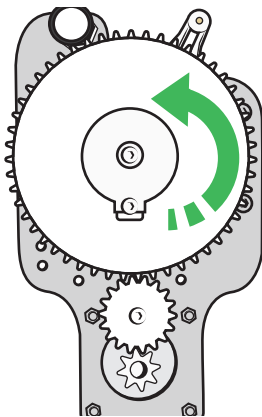

Figure 126
5. Turn the large gear wheel counter-clockwise until it stops against the mechanical stop. See Figure 126.